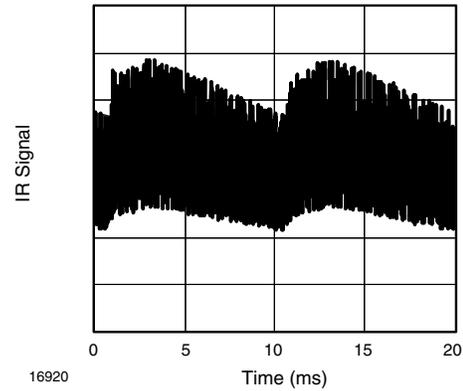
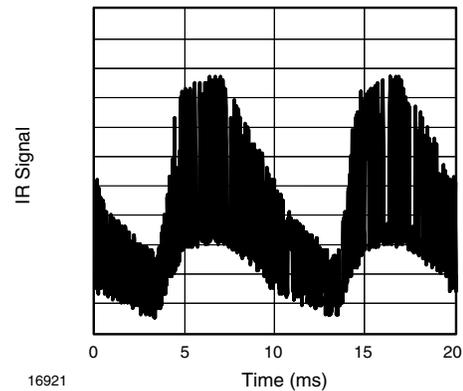

Fig. 14 - IR Disturbance from Fluorescent Lamp with Low Modulation
Fig. 15 - IR Disturbance from Fluorescent Lamp with High Modulation
- Strongly or weakly modulated pattern from fluorescent lamps with electronic ballasts (see fig. 14 or fig. 15)